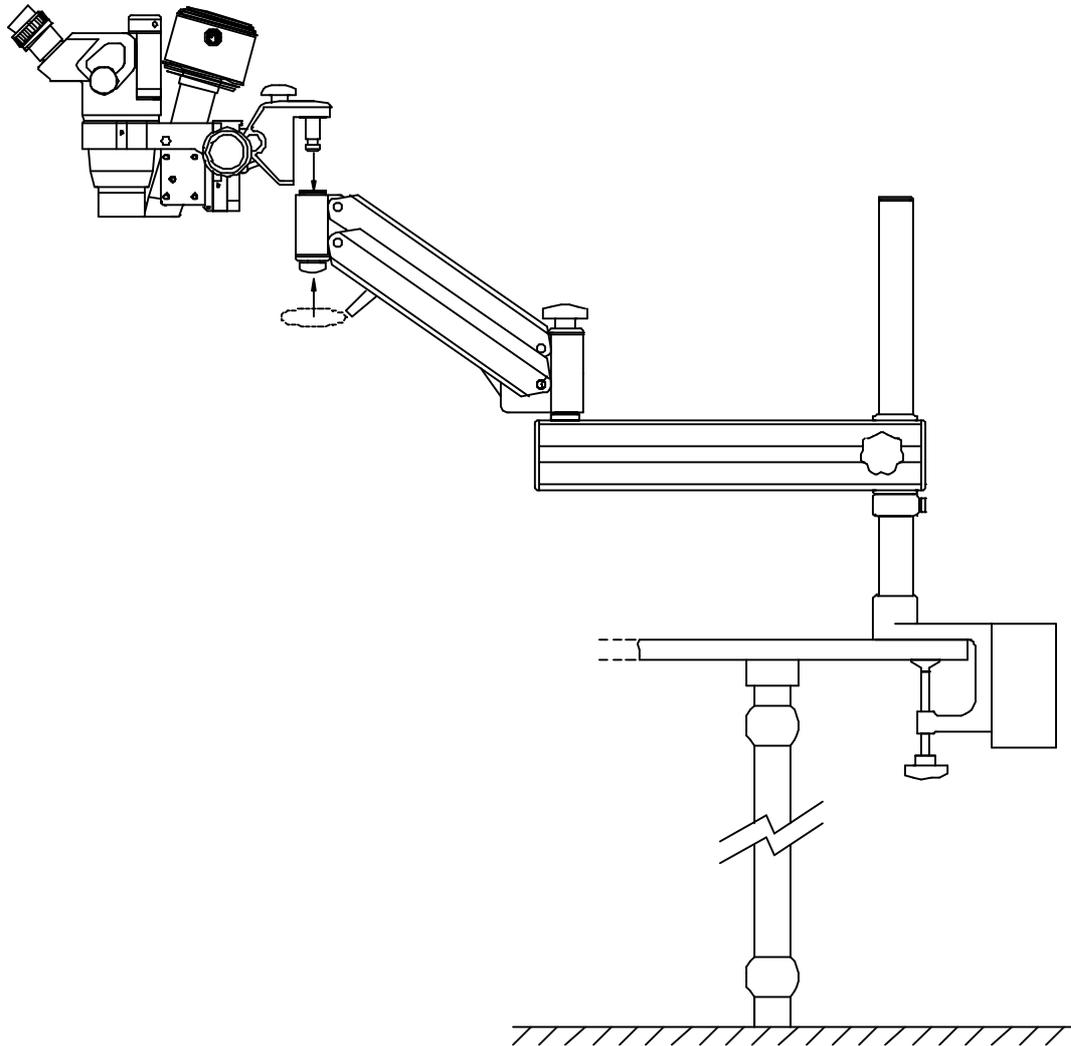

Figure 5 Attaching the microscope assembly
6. Remove the microscope assembly from the case and locate it in the end of the arm assembly. Tighten the collet knob to secure the microscope (see figure 5).